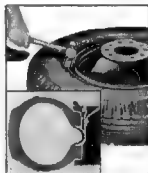

Fig. 65—Releasing Tire Clamp Ring
2. Using a hammer, tap around the side ring progressively to move it in toward the center of the rim until it clears the clamp ring (fig. 65).